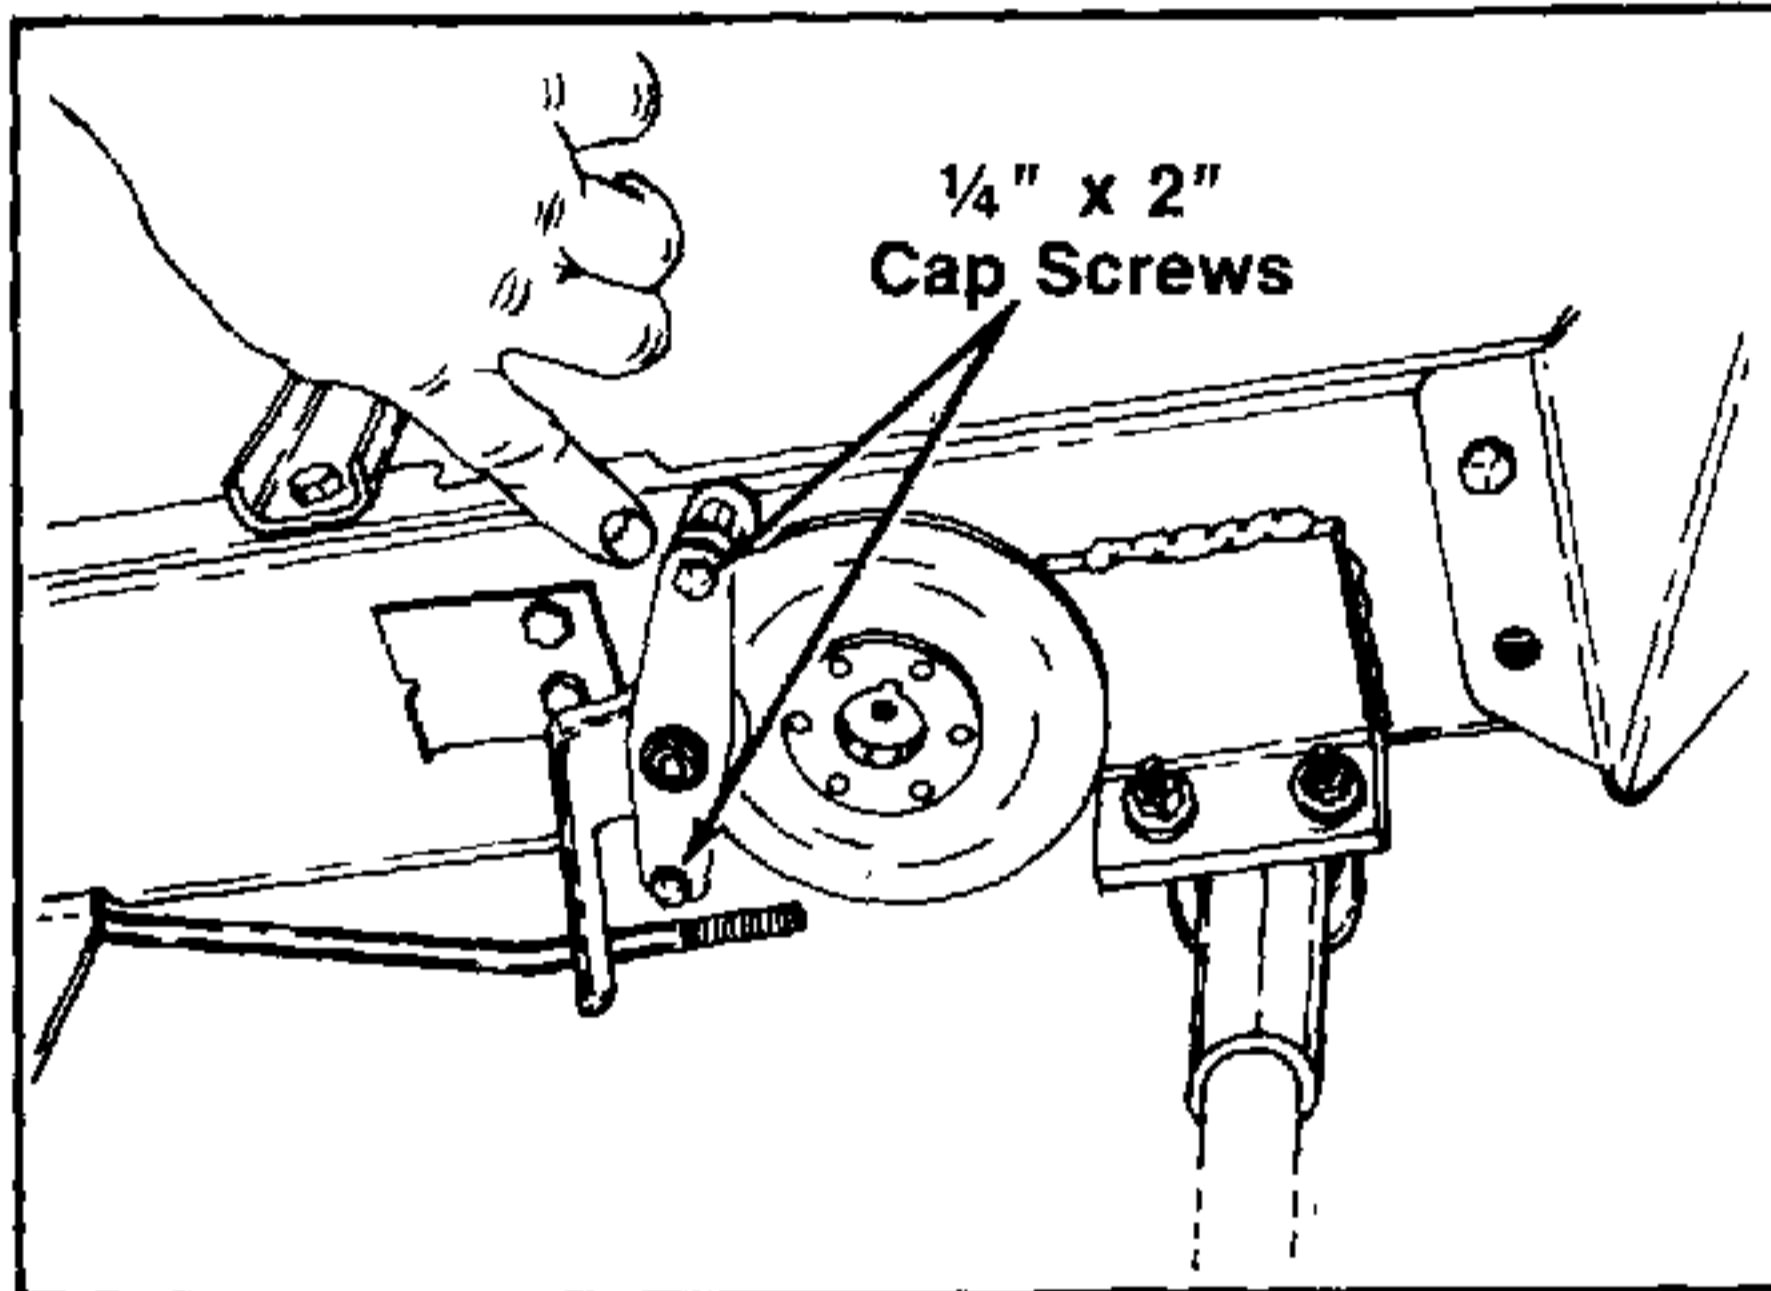

FIGURE 5.
6. Remove brake assembly, by removing two 1/4" x 2" long cap screws and lay off to one side. See figure 5.